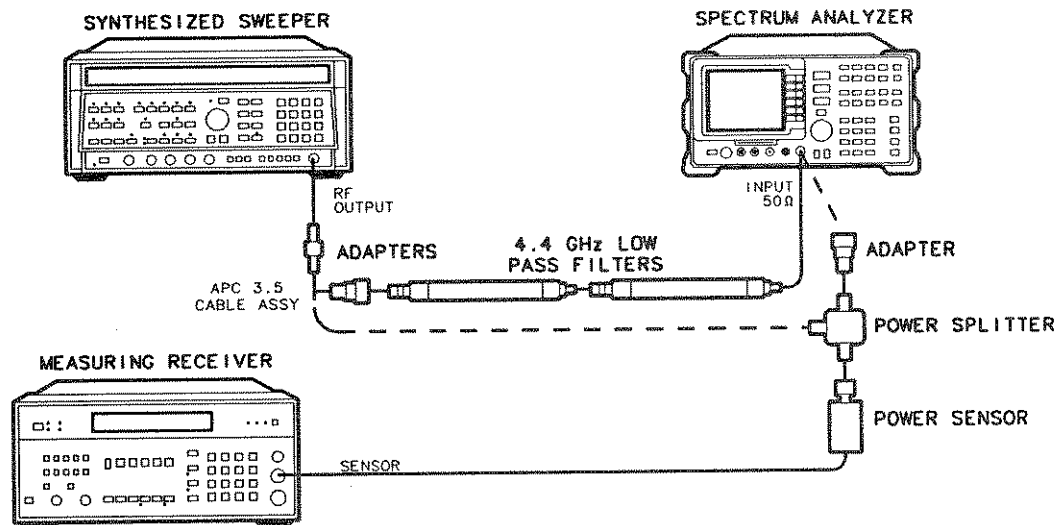

Figure 4-20. Second Harmonic Distortion Test Setup, >2.9 GHz
11. Connect equipment as shown in Figure 4-20, with the output of the HP 8340A/B connected to the input of the power splitter, and the power splitter outputs connected to the HP 8593A and the power sensor. *Option 026:* Use the APC to Type N adapter.
21. Connect the equipment as shown in Figure 4-20 with the filters in place.